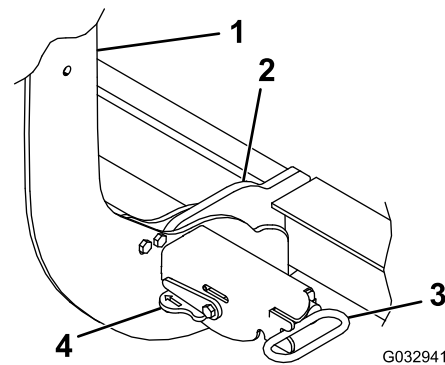

Figure 19
3. Turn the levers on the couplers to the ON position (Figure 19).
6. Ensure that both coupler spring pins have fully engaged the coupler (Figure 19).